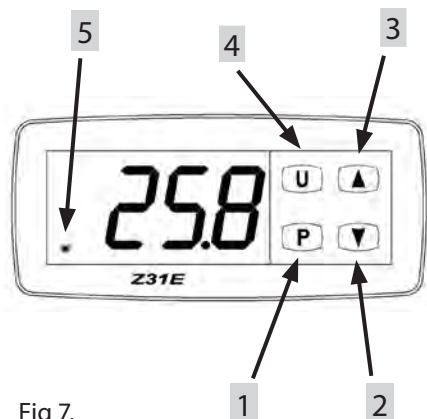

Fig 7.
To prevent overheating of the components within the heater caused by frequent switching 'On' and 'Off' (cycling) the digital thermostat has been pre-programmed with a time delay function. This prevents rapid fluctuations in water temperature from switching the heater 'On' and 'Off' more than once in a two minute period. The time delay mode is indicated by the flashing of the Red indicator (5) on the digital thermostat (see Fig.7)